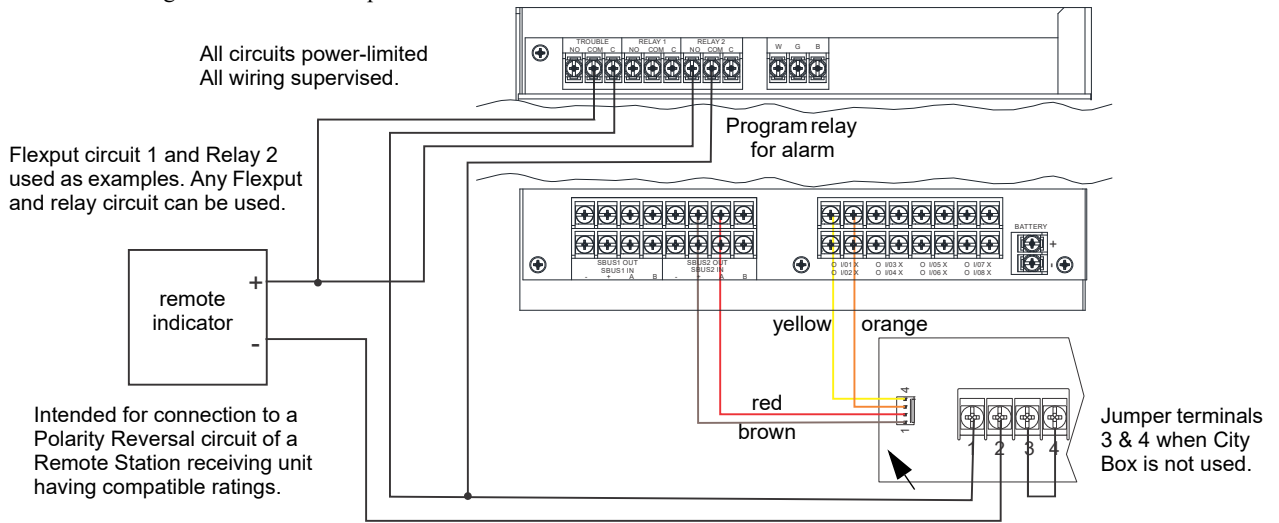

Figure 4.56 Polarity Reversal Connection Using the 5220 Module
2. Wire the 5220 to the control panel using the four-wire pigtail provided as shown in Figure 4.56. This diagram also shows how to connect the 5220 to the remote indicator. Do not install an EOL resistor in the terminals of the Flexput circuit used for this application.